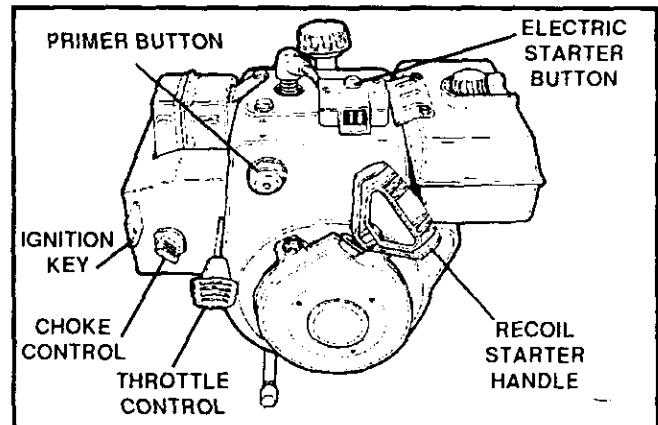

FIG. 3
- To stop the engine, push the throttle control lever to off and pull out the ignition key (See FIG. 3).